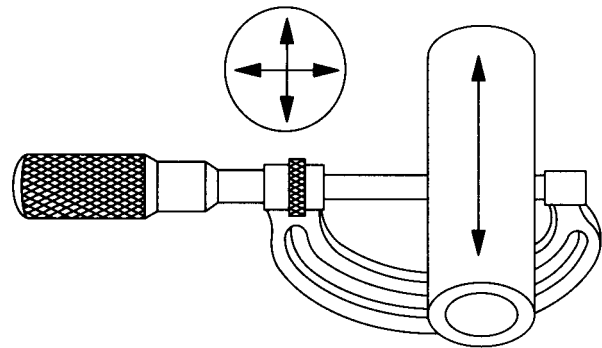

Figure 12-6. Check Piston Pin
- 1. Check piston pin, Figure 12-6.